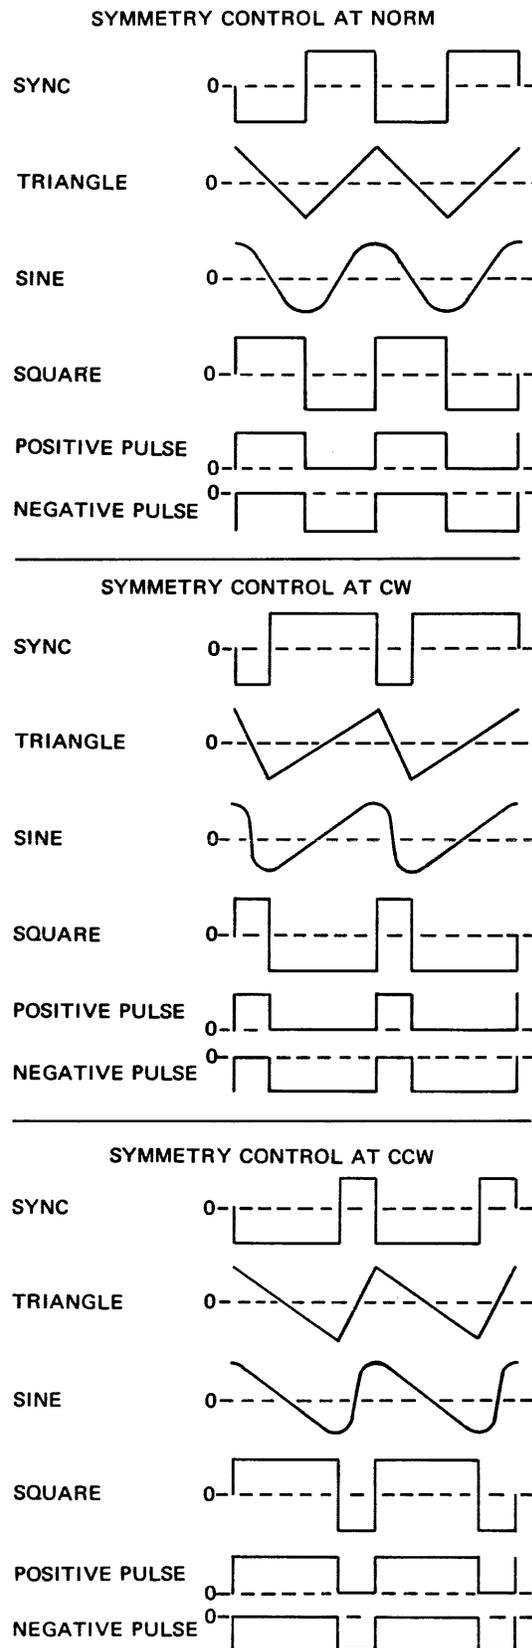

Figure 2-3 - Waveform Phasing and Symmetry Control
2. **Frequency Dial** – This is the main frequency control. The setting on this dial multiplied by the frequency range setting (above) equals the output frequency of the generator. The frequency vernier (3) and the symmetry control (11) also affect the generator frequency. Note their effect in the listing below.
6. **Amplitude Vernier** – A vernier control of the output amplitude. Maximum clockwise position gives the full output amplitude of 30 V peak-to-peak into an open circuit or 15 V p-p into a 50Ω load, except positive and negative pulse which are 7.5 V zero-peak amplitude into 50Ω load. Counter-clockwise rotation will continuously reduce the output amplitude. The control gives a minimum of 20 dB variation (10:1). This control operates in conjunction with the output attenuator (9). For maximum amplitude output this vernier must be full clockwise and the output attenuator in the "0 dB" position.
7. **Sync Out** – This output provides a square or rectangular output at the same frequency of the main generator. The output amplitude is approximately 2 V p-p into 50Ω . The phase relationship between the sync output and the waveforms from the 50Ω output is as shown in Figure 2-3
9. **Output Attenuator** – Attenuates the output from 0 dB (15 V p-p 50Ω max) to -60 dB (15 mV p-p into 50Ω) in six, 10 dB steps. The vernier (6) adds an additional -20 dB, thus, a maximum of -80 dB (1.5 mV p-p into 50Ω).
8. Set SYMMETRY switch/control for desired symmetry or dissymmetry. The symmetry control can be used to develop ramp waveforms with variable rise fall ratios and pulse trains with variable duty cycle. By using the sine wave with dissymmetry, controllable sine distortion can be developed. Figure 2-3 shows the effect of this control on output waveforms.